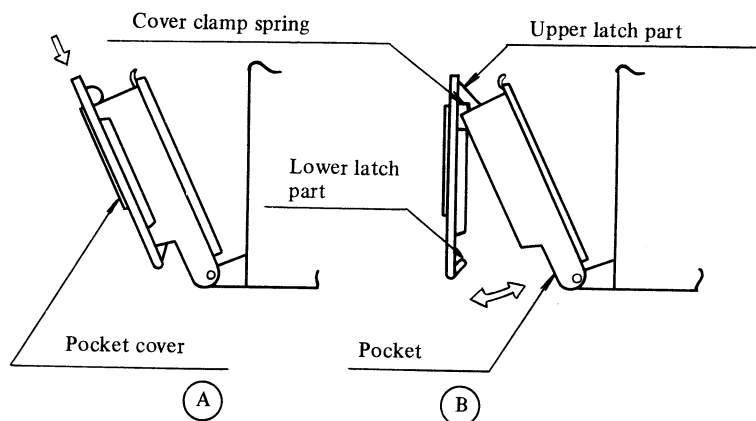

Fig. 2.3 Detaching method of pocket cover
(3) Cleaning procedure
- (a) Remove the pocket cover. Unload the tape, in advance. Detach the pocket cover by pulling its lower latch part in the left direction of the arrow in Fig. 2.3 (B), which depressing the entire pocket cover toward the arrow direction (head direction) in Fig. 2.3 (A).
Hook the upper latch of the cover to the cover clamp spings mounted on both sides of the tape loading port of the pocket. (See Fig. 2.3 (B))
Fit the pocket cover to the pocket by depressing it in the arrow direction (pocket direction) in Fig. 2.3 (B) , while depressing the entire cover in the head direction.